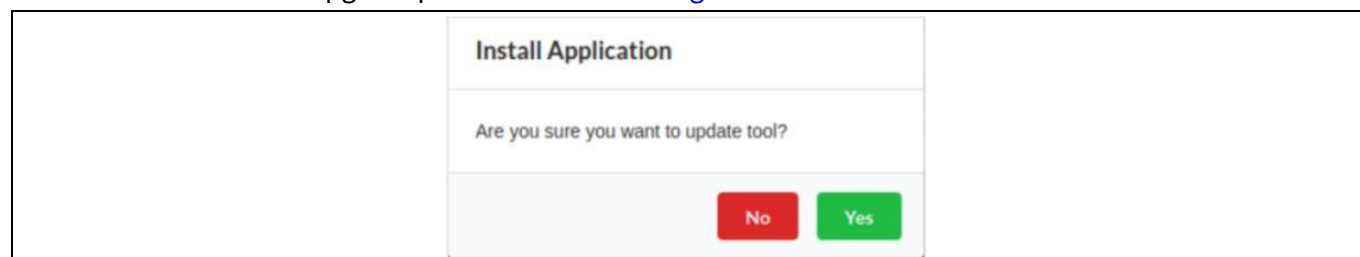

Figure 7 Install application
2. Click **Yes** to start the upgrade process as shown in Figure 7.